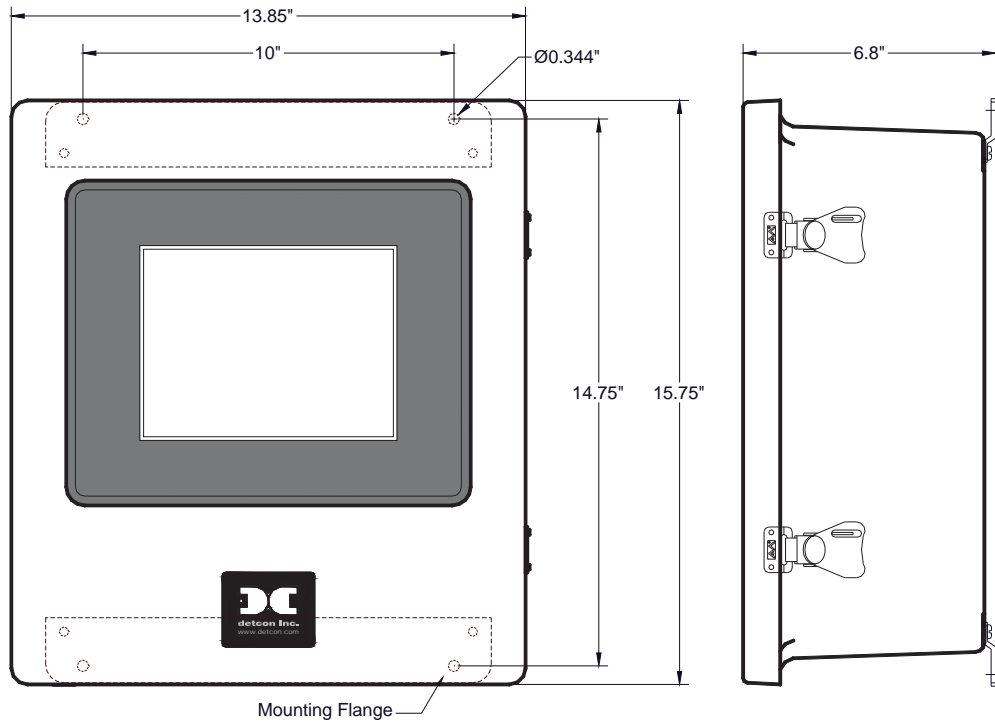

Figure 3 Dimensional Overview
1. Securely mount the 880 Enclosure in accordance with Figure 3.